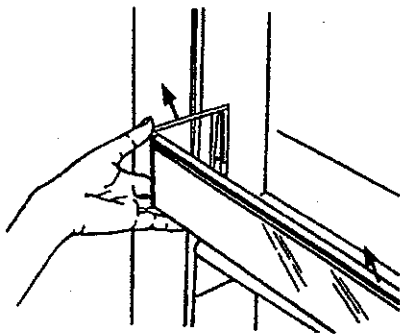

Figure 38
- c. Remove all food from shelf and grasp each end of shelf retainer. Pull shelf straight up and out. See Figure 38.